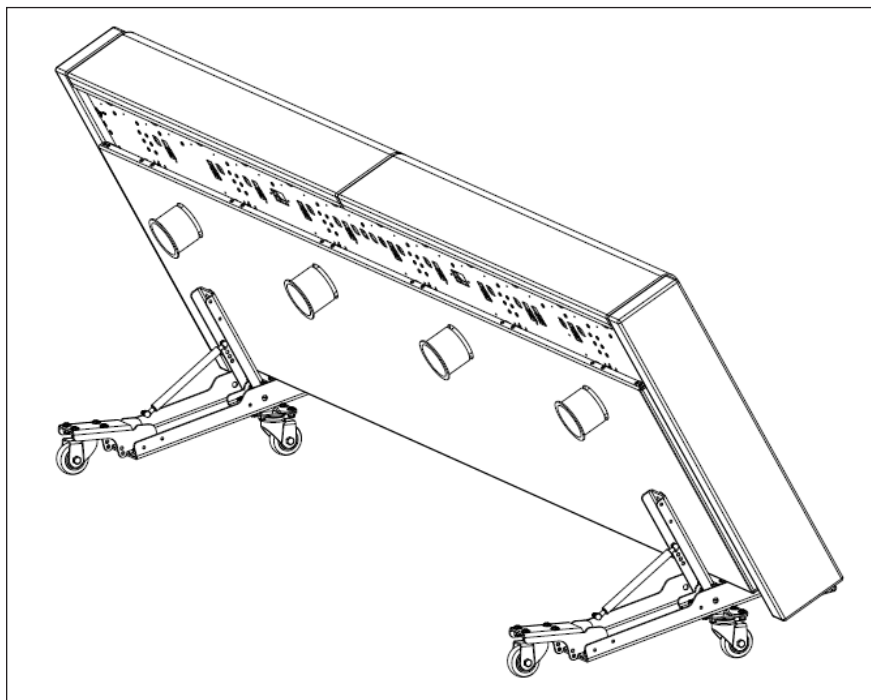

Figure 31: Transport Mode
8. At this point, the table is back in transport mode and can be moved to storage or an alternate location. Refer to **Figure 31**.